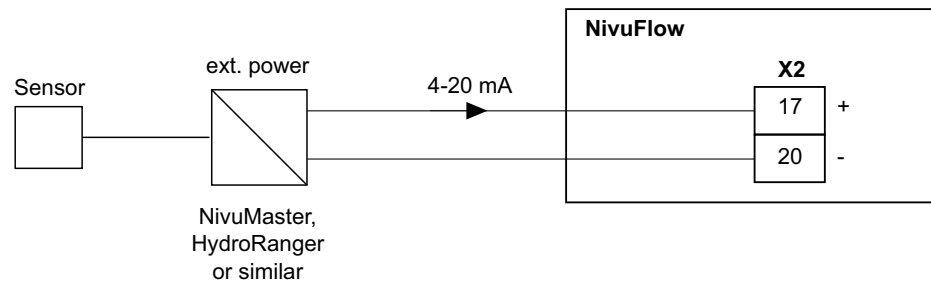

Fig. 23-16 Connection of an external level measurement
- ➡ If the mA signal of the level measurement is provided from an external transmitter (e.g. NivuMaster), the transmitter must be connected according to Fig. 23-16.